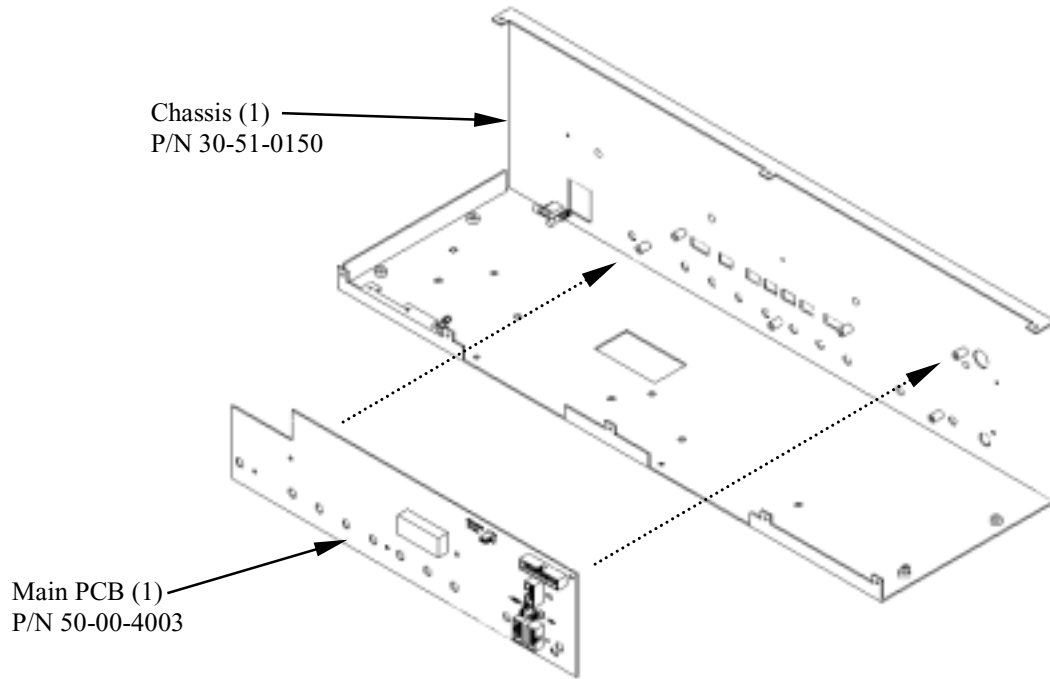

Figure 2
- a. Install the Main PCBA into the Chassis using six 6-32UNC x 3/8 screws. See Figures 2 and 3.